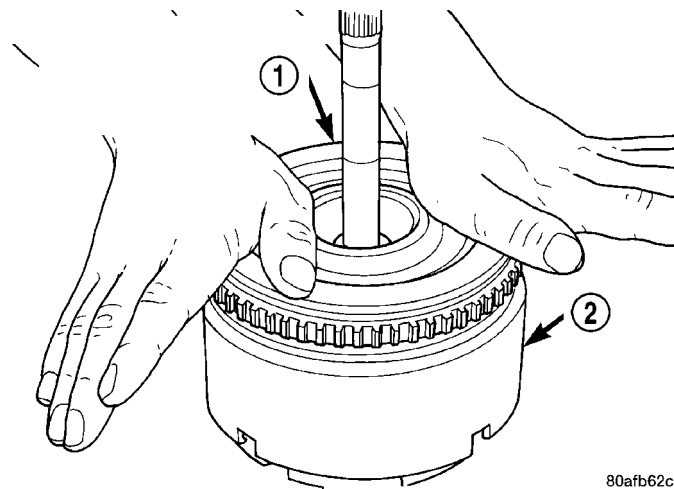

Fig. 242 Install Input Shaft Hub Assembly
(5) Install the input hub/shaft assy. to the OD/Reverse piston/clutch retainer assy. (Fig. 242).